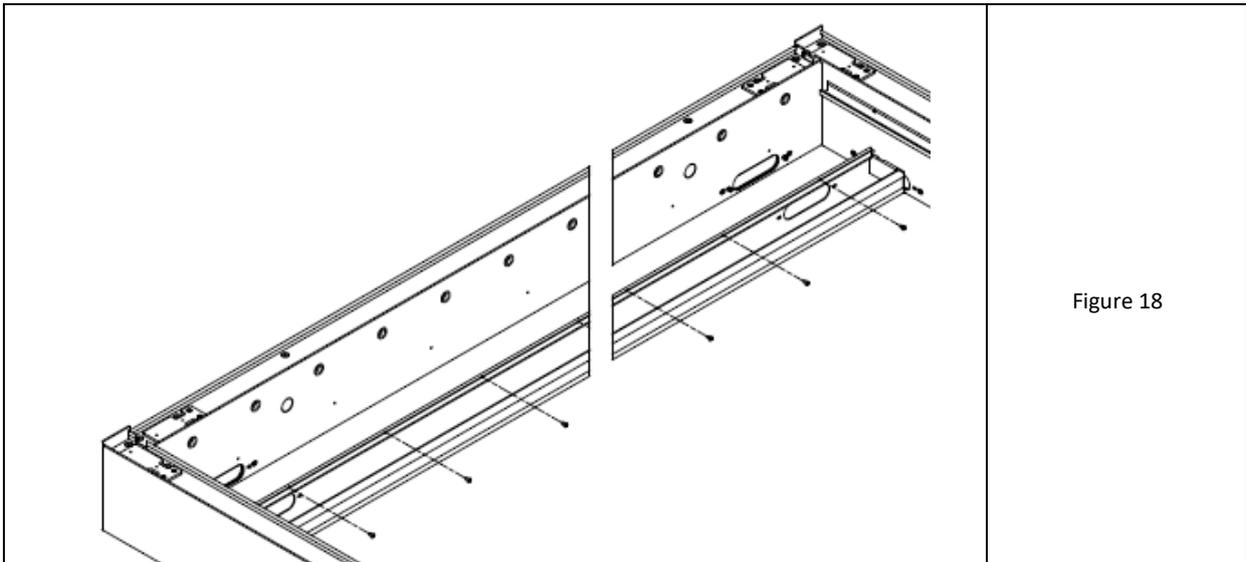

Figure 18
3. Tighten the gutter with St4.8x13 lacquered screws (Fig. 18).